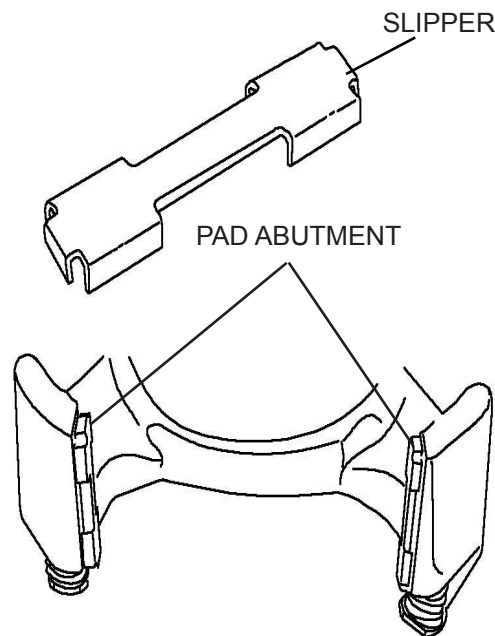

Figure 41. Anchor Plate Pad Abutment Slipper Installation
19. Clean anchor plate abutments with wire brush and reinstall slippers (*Figure 41*).